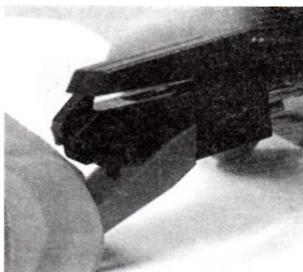

FIG 5a
**NOTE:** DO NOT DIRECTLY TOUCH THE STYLUS (NEEDLE) (15) DURING INSTALLATION, OR YOU MAY CAUSE PERMANENT DAMAGE TO THE STYLUS (15).
- Hold the front tip of the Stylus Assembly with your thumb and index finger and insert the rear edge of the Stylus Assembly on the CARTRIDGE (14) as shown in Fig 5a.